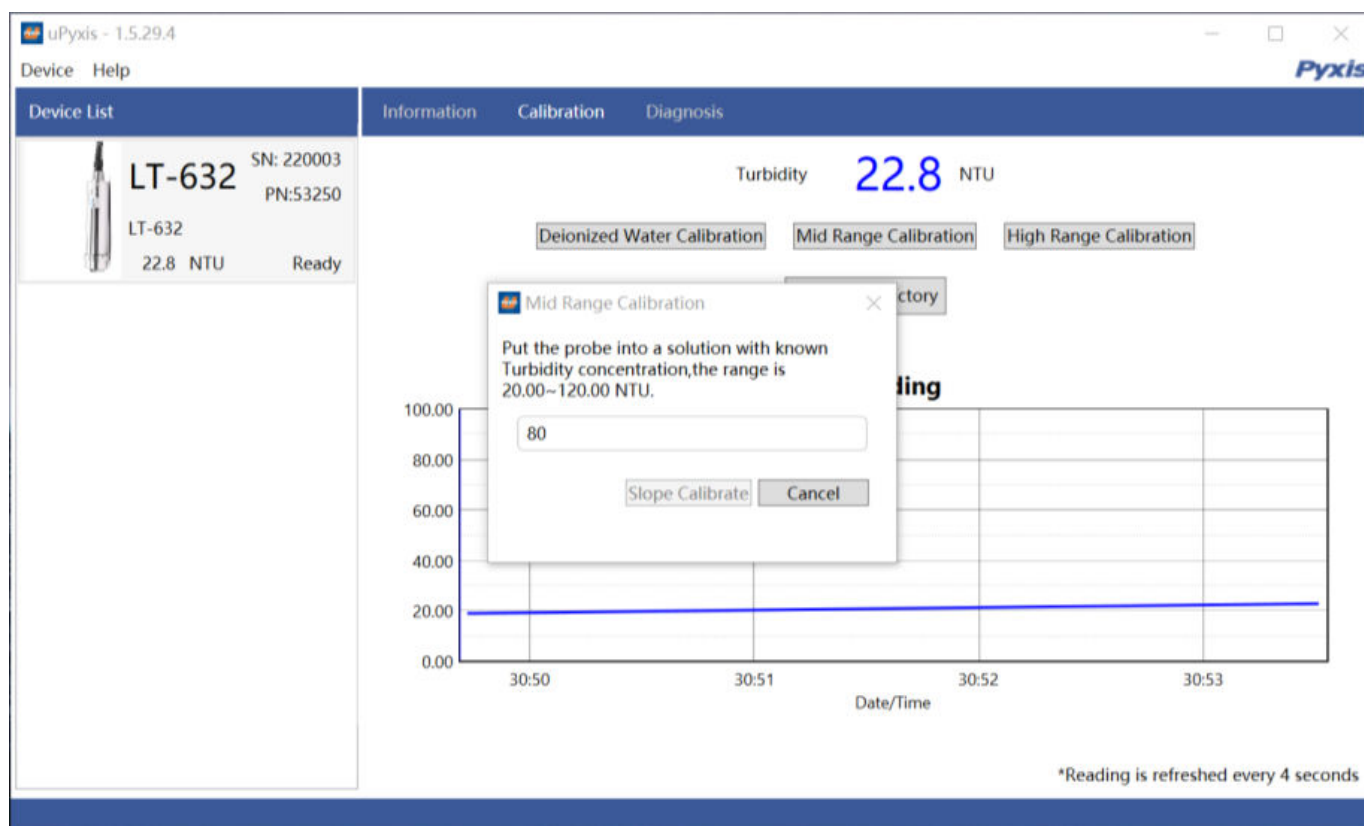

Figure 23 – Mid-Range Calibration
3. Wait until the reading stabilizes and then click the Midpoint Calibration button to calibrate the midpoint to the value of the standard utilized, as shown in Figure 23.